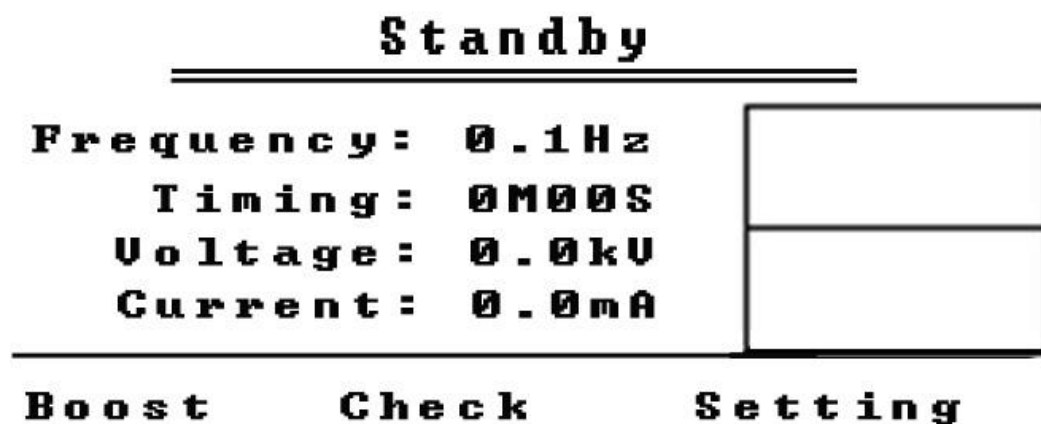

Figure 6 (Standby Interface)
(C) Click “Return” key, the instrument will enter into voltage boost standby interface as shown in figure 6.
(3) Standby interface
Click “Boost” key as shown in Figure 6, the instrument will enter into boost test under microcomputer control according to the procedures as follows:
Data displayed on condition of timing shut-down, click key “Stop”, overvoltage and overcurrent protective shut-down will be stored by the instrument as historical data. Data of last nine times will be stored, and previous data will be automatically eliminated. Click the “Check” key as shown in Figure 6, the user can check the historical data of tests in the last nine times.